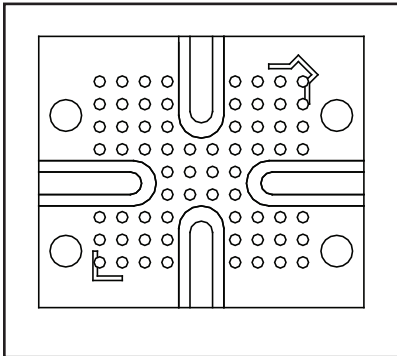

**FIGURE 1.** Recommended mounting layout for surface mount packages (SMT0-8).
In order to maintain optimum performance, the RF ground at the backside of the component is critical. Therefore, Cougar recommends that the grounding be achieved per Figures 1 and 2. The 0.025" diameter solder filled vias are spaced in a 0.050" by 0.050" array. The backside of the PCB should be in direct contact with the ground plane to achieve optimum RF performance and provide a thermal path to sink the heat generated by the component. Running traces under the component (multi-layer PCB) is not recommended. The RF and DC interfaces to the component are also shown in Figures 1 and 2.
The block diagram is shown in Figure 1 - right: This product consists of a 90 degree power splitter/combiner, two double balanced mixers, and an in-phase power splitter/combiner.
**IQM PRODUCT FIGURE 1**